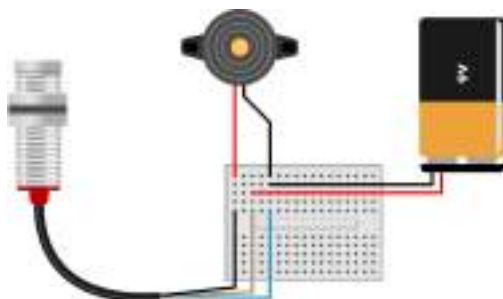

Figure 2-5. *Circuit diagram for the Hall sensor alarm*
1. Orient your breadboard so that it is wider than it is tall, as shown in Figure 2-5.